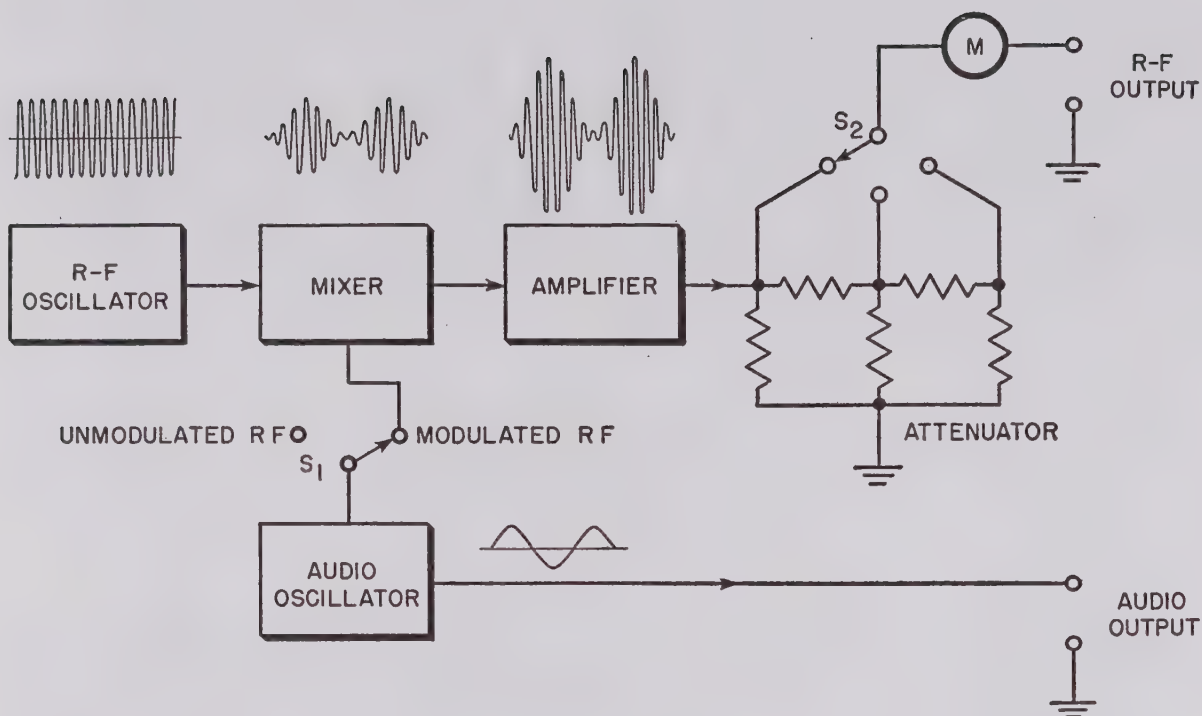

Figure 8 . Block diagram of simplified a-m generator.
b. A-M GENERATORS. Figure 8 shows a block diagram of an a-m generator. There are two oscillators, one for generating rf at the re-